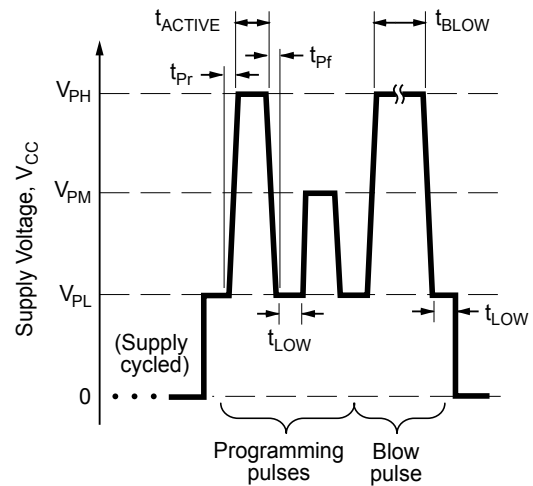

Figure 4. Programming pulse definition (see table 1)
**Table 1. Programming Pulse Requirements, Protocol at  $T_A = 25^\circ\text{C}$  (refer also to figure 4)**